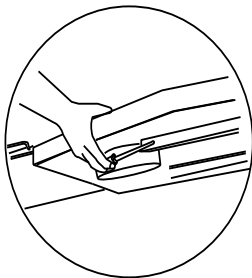

Fig. 2
2. Pull on the height adjustment hand lever to unlock opening of legs (fig. 2).